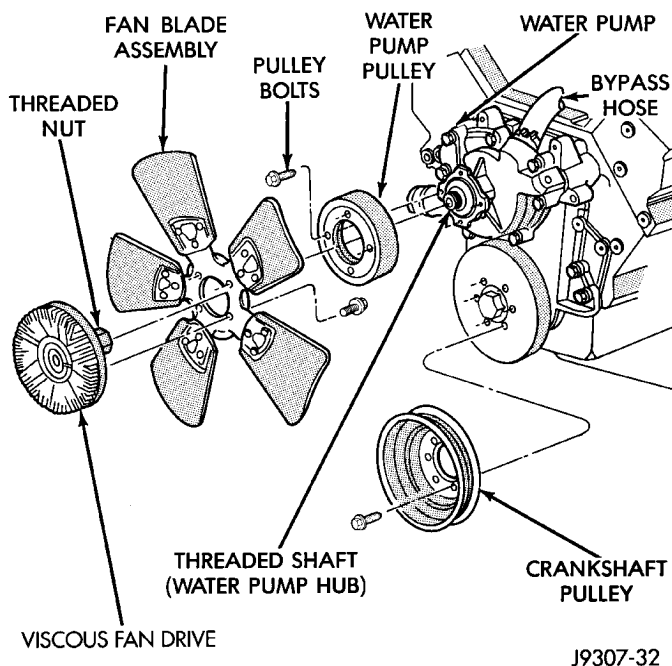

Fig. 68 Fan Blade/Viscous Fan Drive—5.2L V-8 Engines
(1) Disconnect negative battery cable from battery.
(2) The thermal viscous fan drive/fan blade assembly is attached (threaded) to water pump hub shaft (Fig. 68). Remove fan blade/viscous fan drive assembly from water pump by turning mounting nut counterclockwise as viewed from front. Threads on viscous fan drive are **RIGHT HAND**. A Snap-On 36 MM Fan Wrench (number SP346 from Snap-On Cummins Diesel Tool Set number 2017DSP) can be used. Place a bar or screwdriver between water pump pulley bolts to prevent pulley from rotating.
(3) Do not attempt to remove fan/viscous fan drive assembly from vehicle at this time.